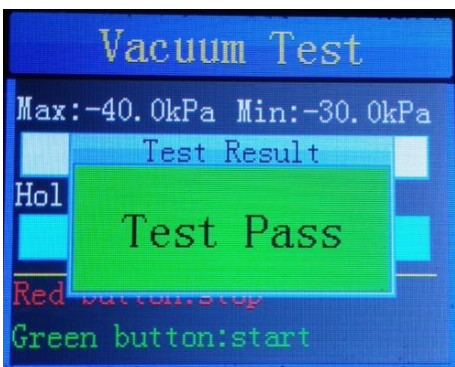
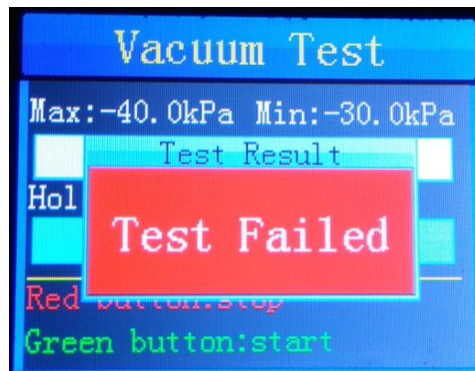

Figure 8
Figure 9
6. "Test Pass" will be displayed when the test passes (Figure 8) and "Test Failed" will be displayed when the test fails (Figure 9).